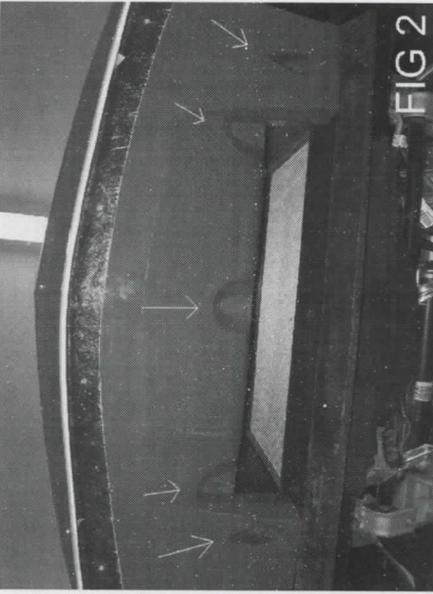

FIG 2
3. REMOVE FIVE (5) BOLTS FROM FRONT BUMPER COVER AND SET ASIDE (SEE FIG. 2).
4. REMOVE THE SPOILER RETAINERS FROM YOUR NEW ACI FRONT SPOILER BY REMOVING THE EIGHT (8) HIGH/LOW SCREWS. SET RETAINERS ASIDE FOR LATER INSTALLATION.